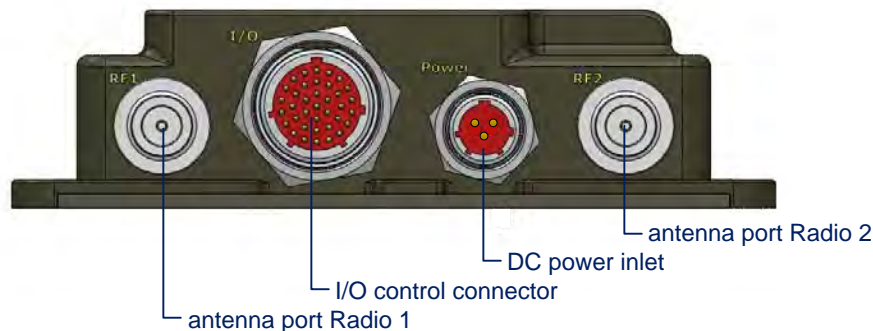

Figure 2.1. ES820 Back-Panel Port Locations
- 2 Connect the Mesh Point's DC power inlet (see Figure 2.1) to an external power source.